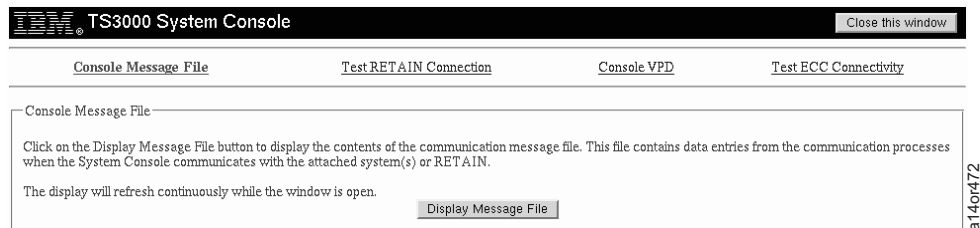
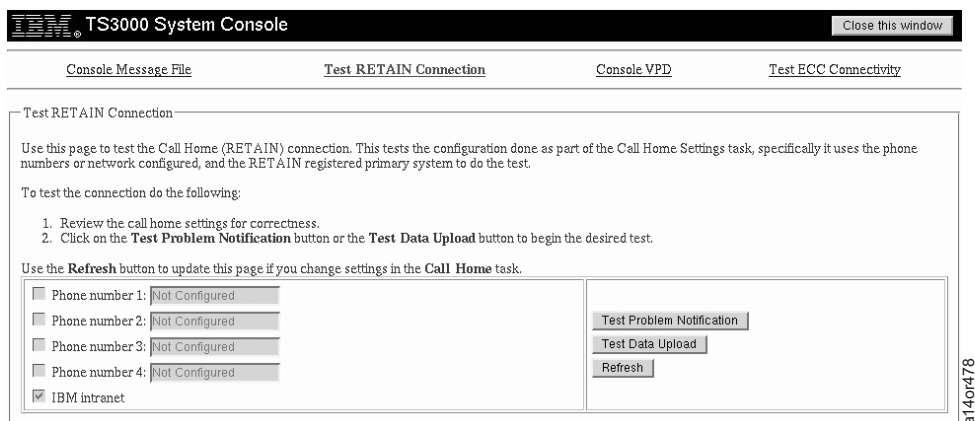

Figure 3-73. Console Message File Screen
Figure 3-75. Test RETAIN Connection Request Screen - As a Service Procedure
4. Click **Console Status**. You see Figure 3-73.
1. From the Console Message File screen shown in Figure 3-73, select **Console Message File**.
1. From the Console Message File screen shown in Figure 3-73 on page 3-54, select **Test RETAIN Connection**. You see Figure 3-75.
From the Console Message File screen shown in Figure 3-73 on page 3-54, select **Console VPD**. You see Figure 3-77. The VPD information is listed for you in the System Console Product Information box.